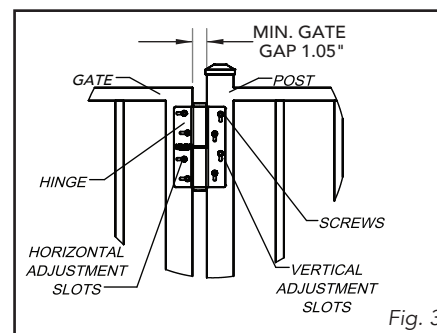

Fig. 3
2. The hinges should be positioned on the front-facing surfaces of the post and gate frame with the gate in the closed position. Hinges must be in line with each other to function properly. Mount the lower and upper hinges as shown using the supplied self-drilling screws (Fig 3). Self-drilling screws are intended for aluminum fences; other fence materials may require different mounting hardware. The hinges may be adjusted horizontally or vertically since the mounting holes are slotted.